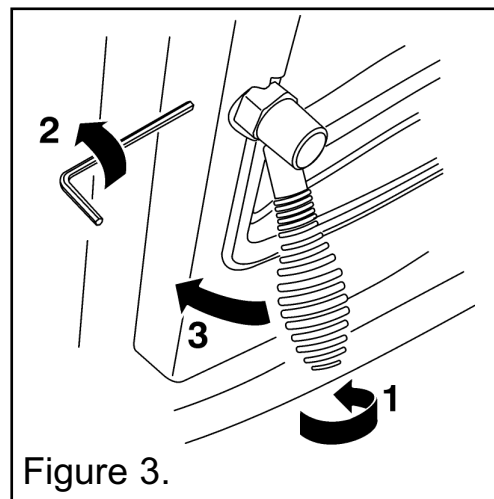

Figure 3.
- Stove Burner (RC) - Assy box** Contains 944 RC burner module including rear burner support, remote control handset, PP3 Battery and 4 AA batteries. Item number 05944X4.
**NOTE:** The door is secured with a locking bolt and Hex nut. To open the door use a 3mm Allen key to loosen the hex nut on the side of the door, being carefull not to remove it completely. Ref to Figure 3 below.